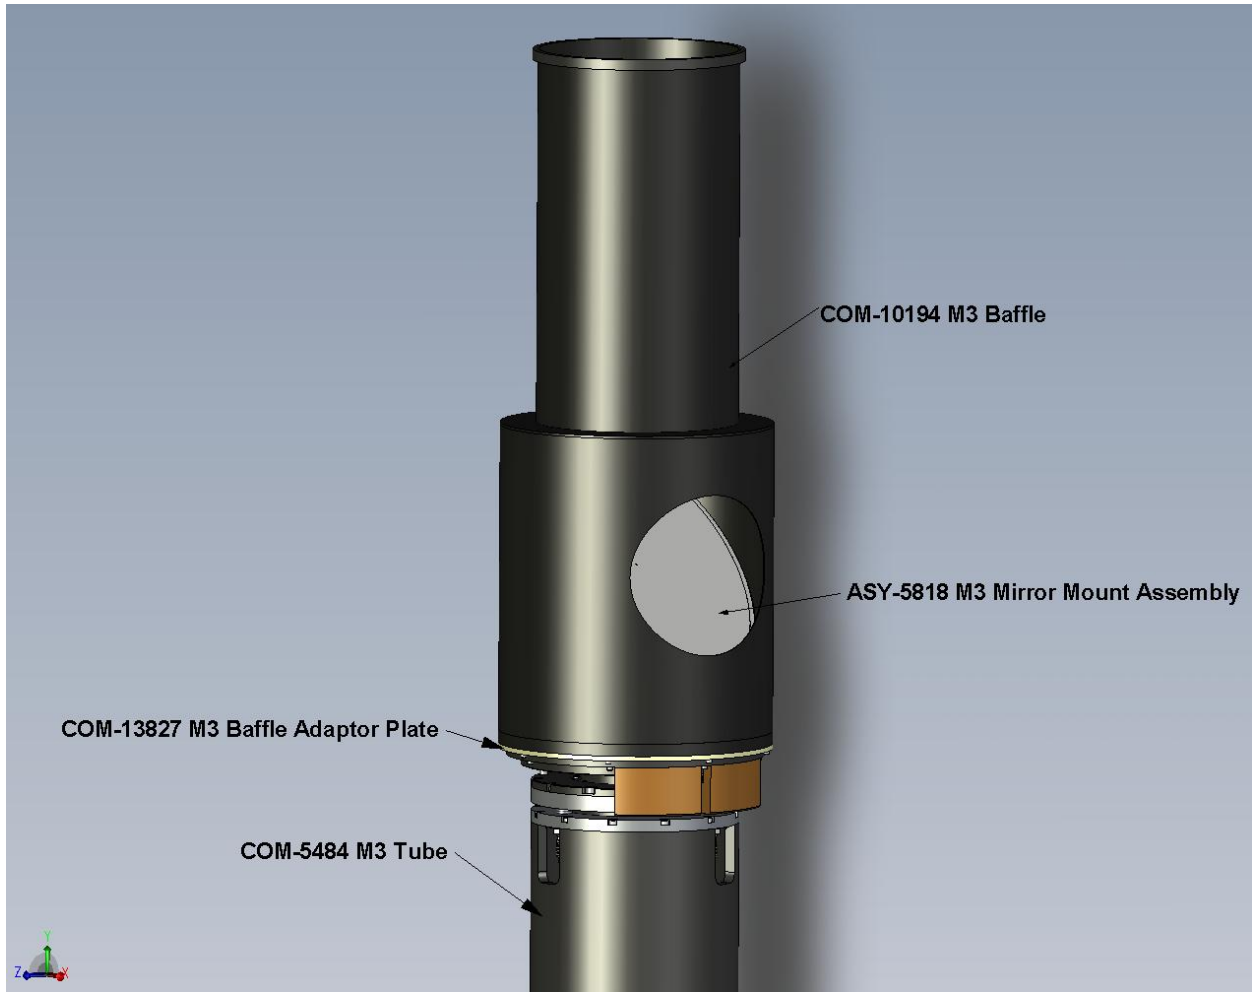

Figure 5 M3 Assembly with Baffle Installed
5. While one person holds the M3 Baffle (COM-10194) in place, remove the six M4 SHCS that attach the M3 Baffle to the M3 Baffle Adaptor Plate (COM-13827), see Figure 5.
8. Carefully place the M3 Baffle into position on the M3 Rotator Assembly, see Figure 5. It is advisable to have one person guide the baffle over the M3 Mirror and Mount while another person supports the weight of the tube. Use extreme caution to prevent the baffle tube from contacting the M3 Mirror (COM-5906) or M3 Mirror Mount Assembly (ASY-5818).
9. While one person holds the M3 Baffle (COM-10194) in place, insert and tighten the six M4 SHCS that attach the M3 Baffle to the M3 Baffle Adaptor Plate (COM-13827), see Figure 5.